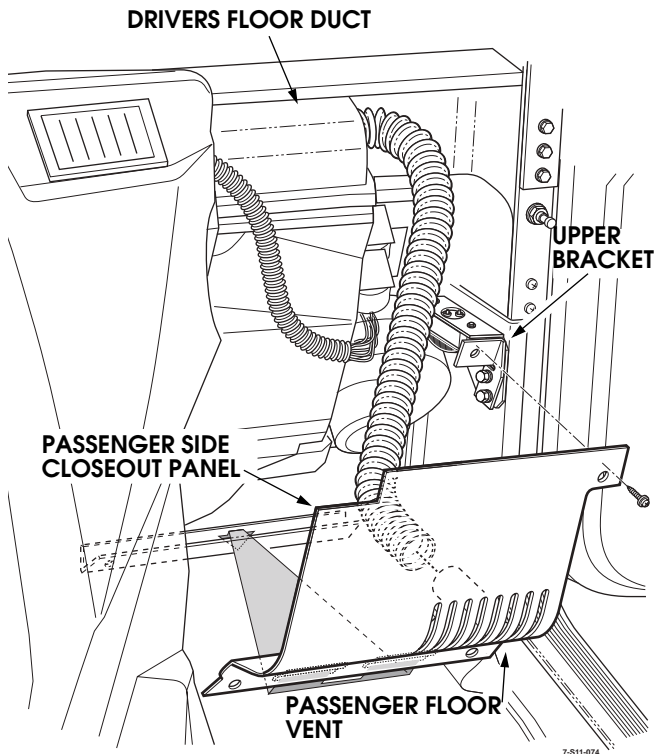

Figure 11-22: Passenger Floor Duct
2. Remove screw securing passenger side closeout panel to upper closeout panel bracket (Figure 11-22).
3. Lower panel down, and pull rearward to remove from lower bracket (Figure 11-22).
4. Remove screw securing duct hose to closeout panel (Figure 11-22).
5. Remove screw securing duct hose to the drivers floor duct assembly (Figure 11-22).